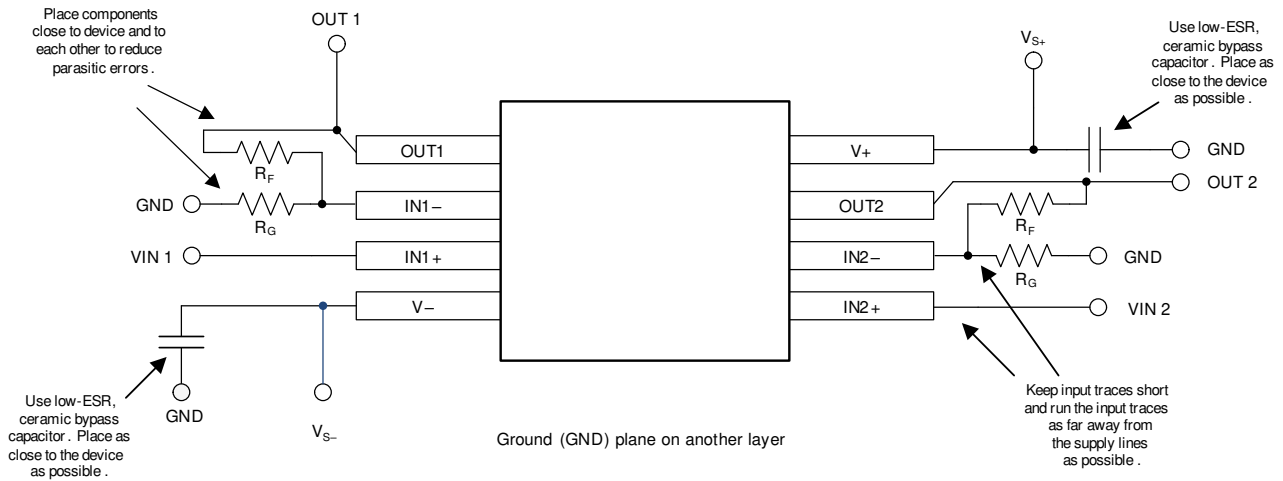

图 8-4. Layout Example
- Place the external components as close to the device as possible. As illustrated in 图 8-4, keeping RF and RG close to the inverting input minimizes parasitic capacitance on the inverting input.